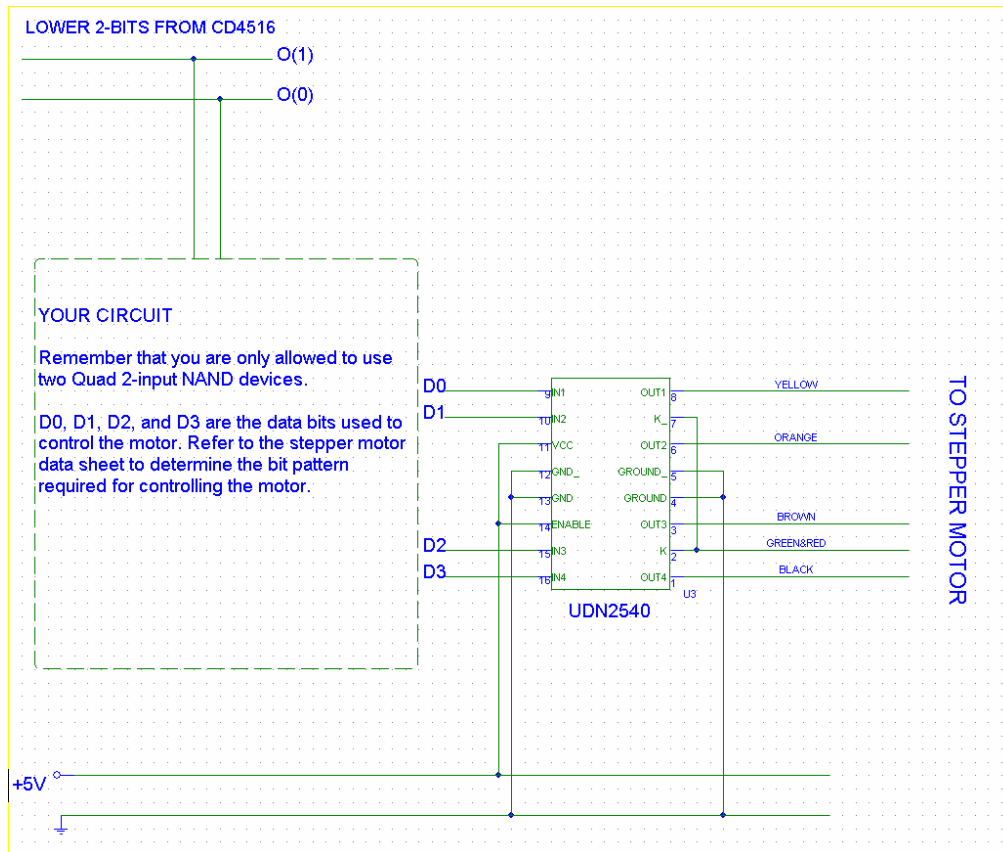

Figure 4.1
Figure 4.1 shows the second part of the controller circuit. Refer to this figure to help you logically organize your circuit.
Wire up the circuit shown in Figure 4.1. Here are the guidelines that you **must follow** when wiring up the circuit. **These guidelines are set in place so you will learn how to wire up neat and organized circuits on a breadboard!** We recommend that you follow these guidelines in all successive lab courses you take at MTU. **If you choose not to follow these guidelines, your T.A. will not help you with debugging your circuit.**
Before you power on your circuit have your T.A. inspect the circuit and sign the signoff sheet. When your T.A OKs your circuit, power it on! You should see the LED that is part of the “clock indicator circuit” (see figure 4.1) blink on every tick of the clock. The 4 LEDs should be turning on and off, representing the bit sequence as the counter chip counts. Your stepper motor should now rotate. Change the variable resistance in order to speed up/slow down the rotation. Use the switch to change the direction of rotation.
- Using a voltmeter confirm that all chips on the breadboard are getting +5V on the proper pins. Refer to figure 4.1 to see which pins, on each chip, should be wired to +5V;
1. The circuit shown in Figure 4.1 is wired properly;